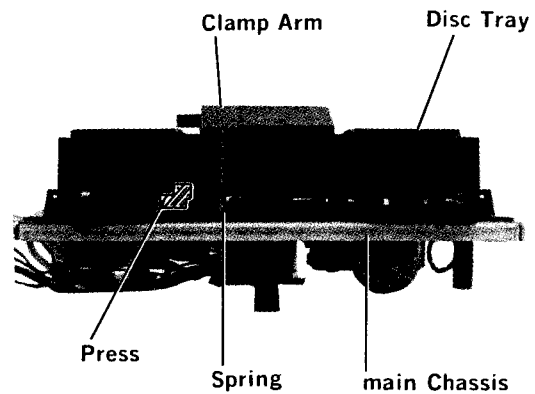

Figure 13 <13図>
- (1) Pull out the disc tray in the arrow direction by pressing slant position of the disc tray as shown in Figures 13 and 14.
- (1) Remove one spring between the main chassis and the clamp arm as shown in Figure 13.